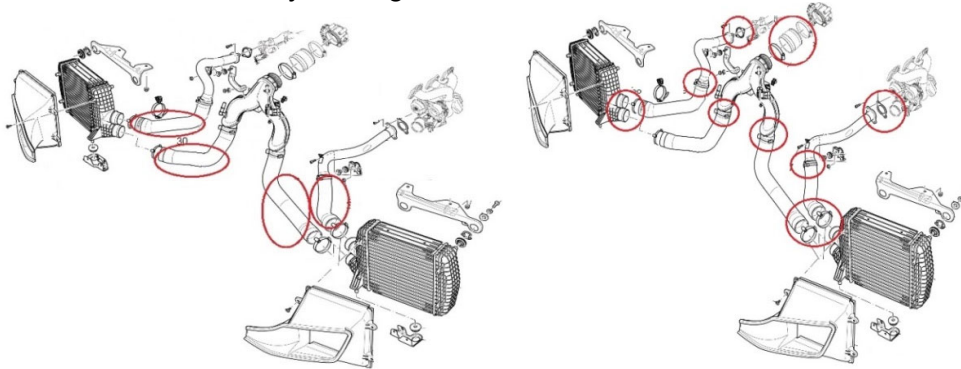

Figure 3 – Intake System
- 7) Check if there are any leaks in the intake and exhaust systems, if necessary use a smoke tester to check the highlighted areas shown below in Fig.3. Verify that the V-Clamp in-between the turbocharger and the catalytic converter is correctly tightened and does not show any misalignment or exhaust leaks.